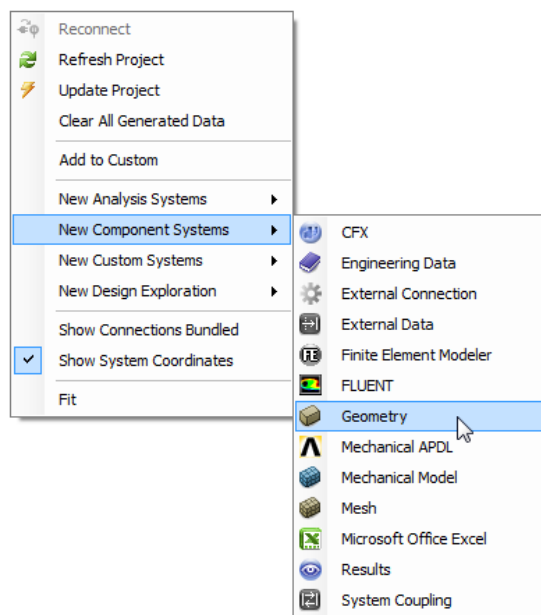

Figure 3-83 Choosing the **Geometry** option from the shortcut menu displayed on choosing the **New Component System** option
- Right-click in the **Project Schematic** window and choose **New Component Systems > Geometry** from the shortcut menu displayed, as shown in Figure 3-83; the **Geometry** component system is added to the project and is displayed in the **Project Schematic** window.